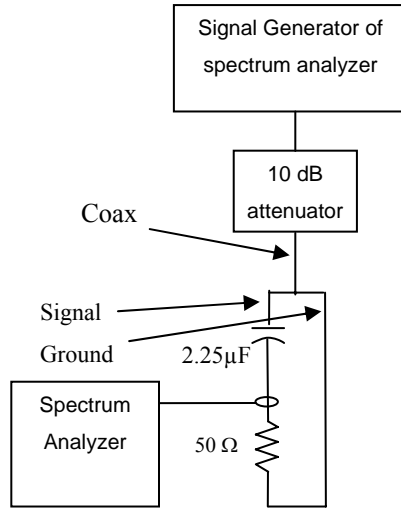

Figure 4-8: CS102 Calibration Set-Up for 150 kHz to 10 MHz
- 1) Set up the measurement equipment per Figure 4-8: CS102 Calibration Set-Up for 150 kHz to 10 MHz: